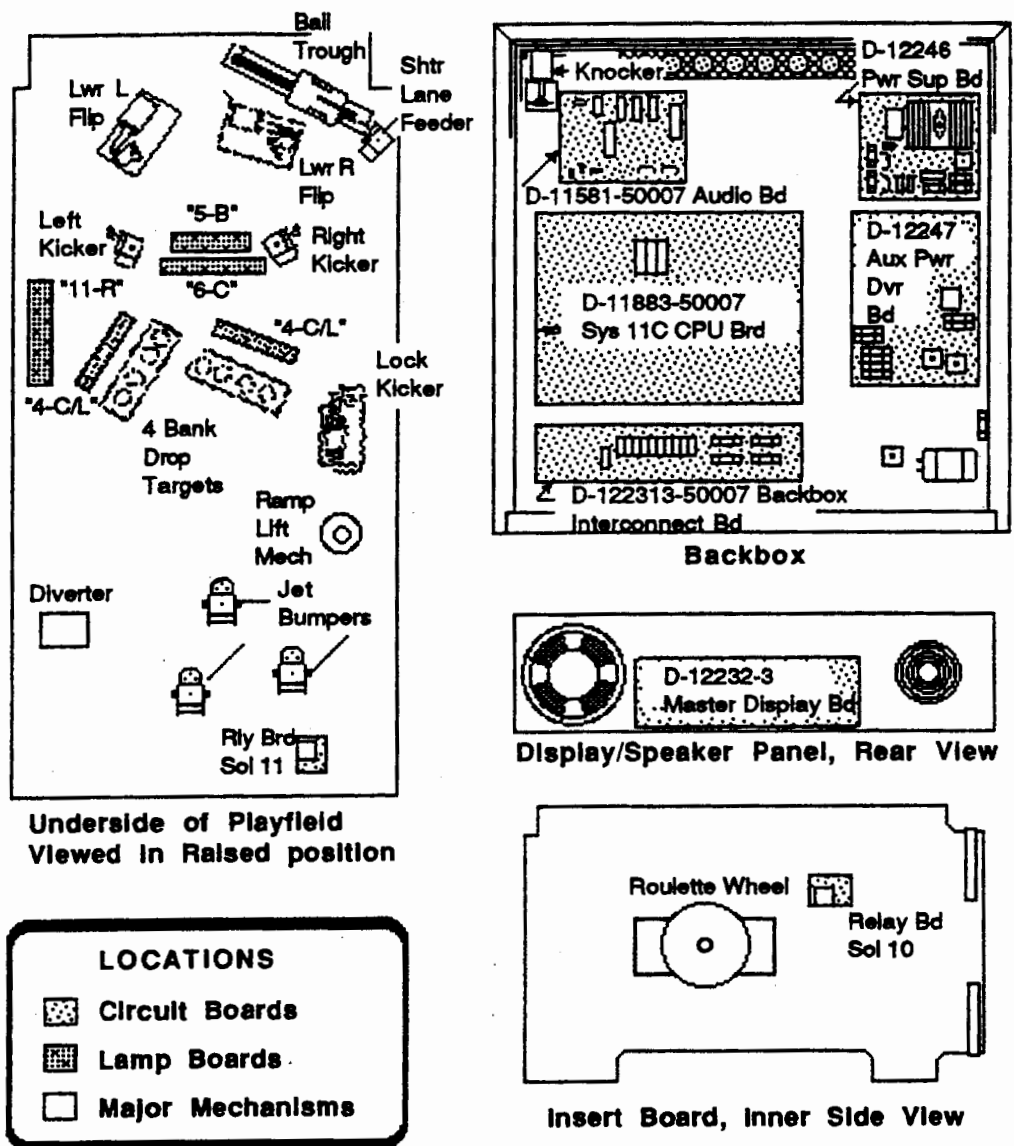
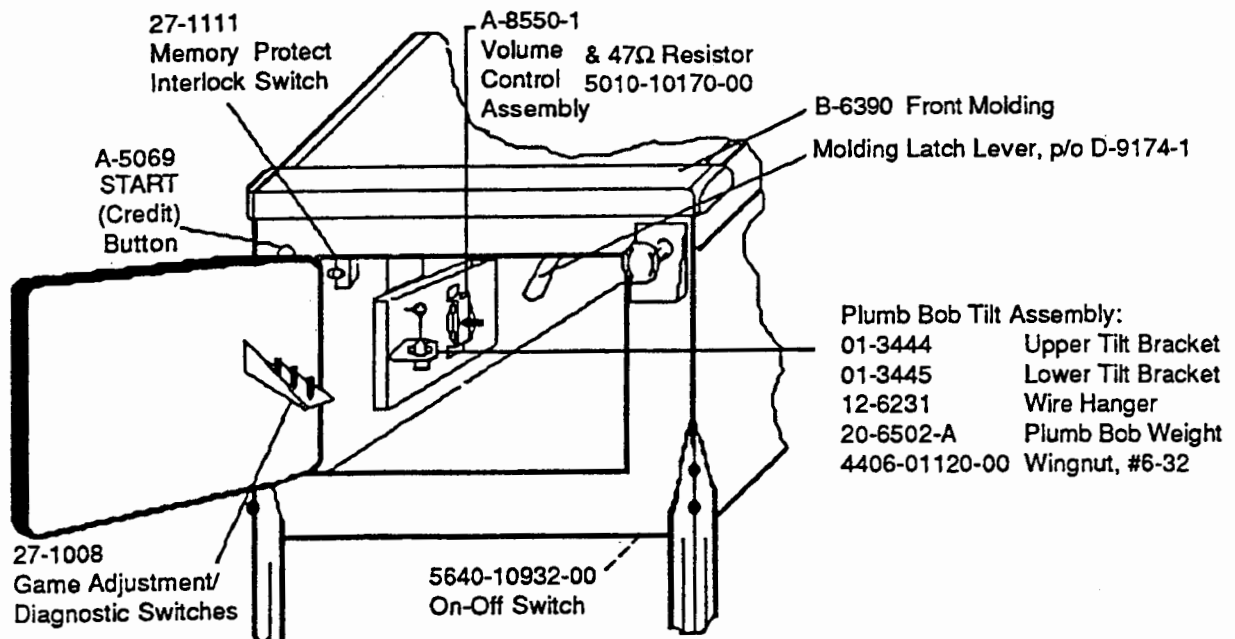

Figure 1. Locations Diagram - Game Circuit Boards and Major Mechanisms
Figure 2. Pinball Game Controls Locations
Figure 1 shows the locations of these circuit boards, as well as other devices especially located to make **RIVERBOAT GAMBLER** a great game.
Figure 2 shows the locations of the following switches, except for the last one (CPU Diagnostic switch, which is shown in the Backbox portion of Figure 1, along the left edge of the CPU Board).
Figure 1 shows the location of the CPU Board switch (left edge of CPU Board, Backbox View).
7. Unlock and open the coin door. Locate the Molding Latch Lever (shown in Figure 2), and move the lever toward the left side of the game, to release the Front Molding. Lift the Front Molding off the playfield cover glass (notice that for each pushbutton on the front molding, there is a corresponding membrane switch on the metal strip, under the front molding); return the Latch Lever toward the right, and close the coin door. *Carefully* slide the glass downward, until it clears the grooves of the Left and Right Side Moldings. Lift the glass up and away from the game, storing it carefully to avoid breakage.